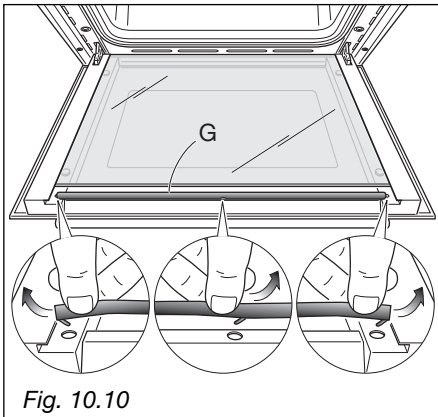

Fig. 10.10
- Remove the seal **G** by unhooking the no. 3 fixing hooks (fig. 10.10).